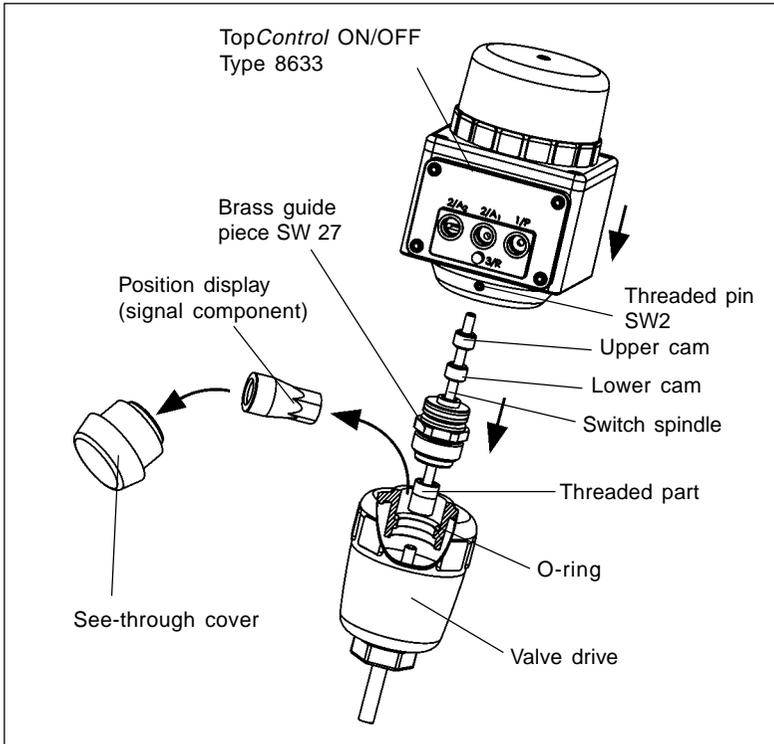

Fig. 2: Installation of the TopControl
- Then secure the *TopControl* housing onto the valve drive by moderately tightening the two threaded rods using an SW2 Allen key (**max. 0.4 Nm**). (See Fig. 2).
- Undo the threaded pins inset into the side of the housing using an SW 2 Allen key (see Fig. 2).